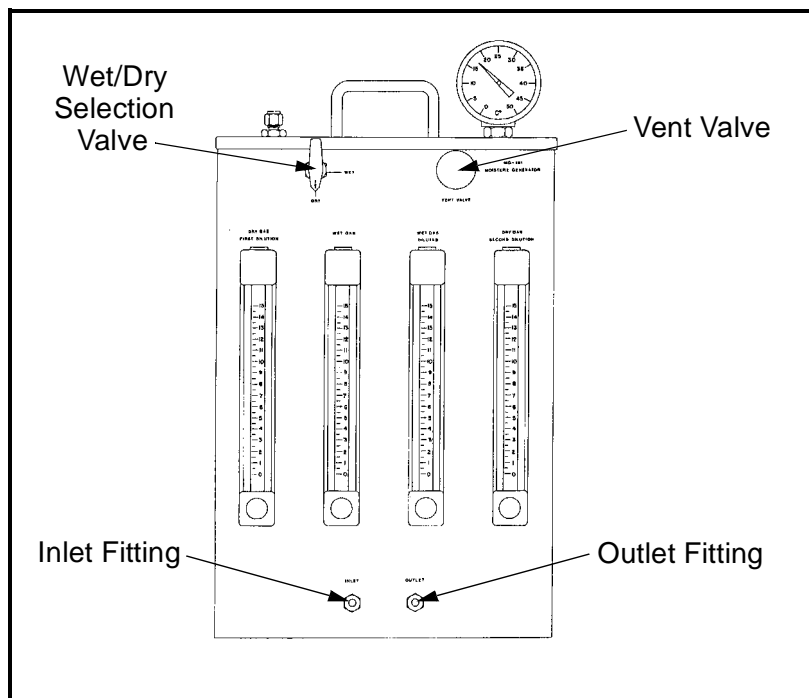

Figure 3: MG101 Front View
4. Fully open the vent valve on the front panel by turning it counter-clockwise, and turn the WET/DRY SELECTOR VALVE to WET (see Figure 3 on page 6).